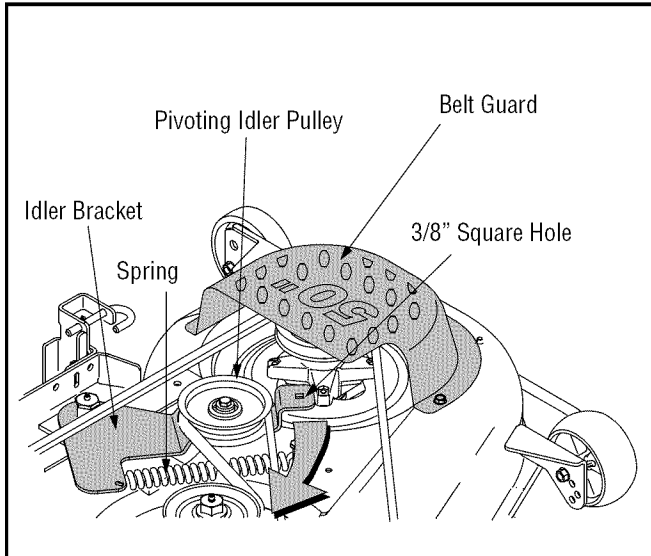

Figure 23
- To ease in removing the belt in later steps, loosen, but do not remove, the bolt which secures the pivoting idler pulley to the idler bracket. See Figure 23.
- Insert a 3/8"-drive ratchet wrench (set to *tighten*) into the square hole found in the idler bracket on the left side of the deck's surface. See Figure 23.